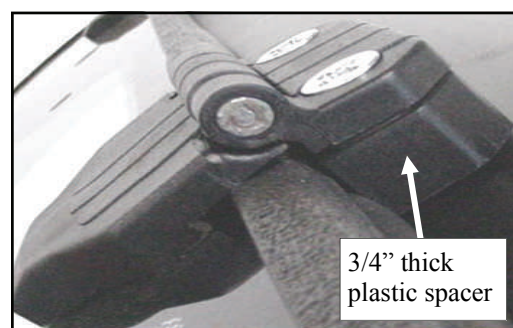

Fig. 5.1 View from driver's side
5.1 Have the following items ready: four 5/16-18 x 1 3/4" long flat head bolts, four steel washers, four 5/16-18 locknuts, and two plastic spacer blocks. With assistance, place the windshield in place on the windshield support with the 3/4" thick plastic spacer blocks underneath the plastic hinges for mounting up against the outer surface of the windshield support per fig. 5.1. Adjust windshield seal to the vehicle hood with side latches engaged and tighten. **NOTE: hinges are plastic components. Do not overtighten. Torque to 7 ft.-lbs. max..** **WARNING: do not travel with windshield in full open position.**